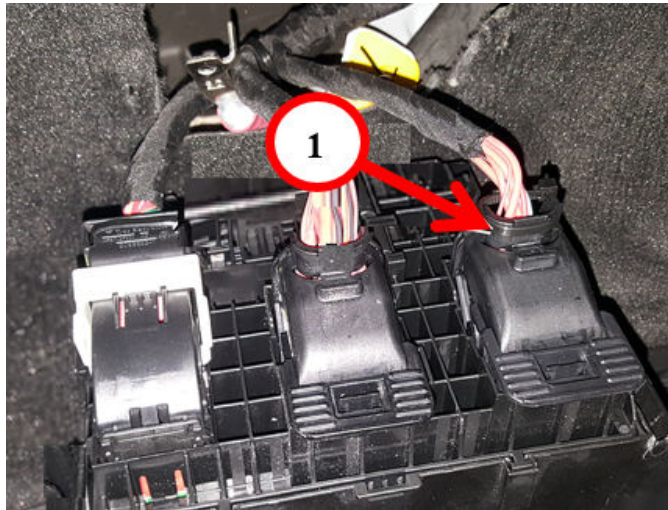

Fig. 3
5. Pull the PDC out from the PDC bracket and disconnect the C3 wire harness connector Fig. 3.
14. Connect the C3 wire harness connector to the PDC Fig. 3.